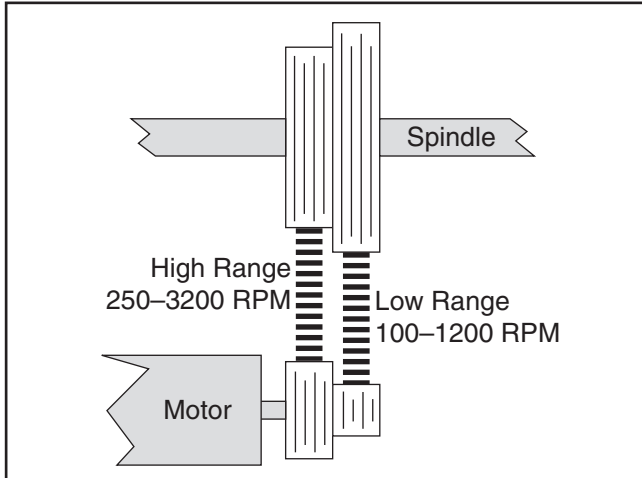

Figure 34. Speed range belt positions.
- Reach into the belt access cavity and roll the belt onto the desired set of pulleys (see **Figure 34**).